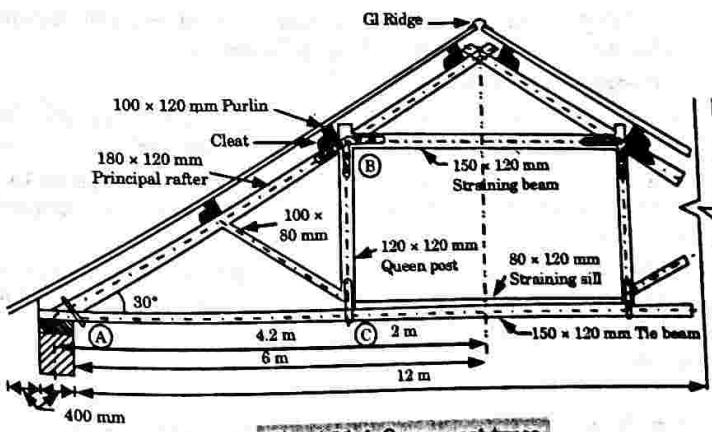

Fig. 4.11.4. Queen post truss
- This truss can be used over spans varying from 9 m to 14 m. Queen post truss, is shown in Fig. 4.11.4.